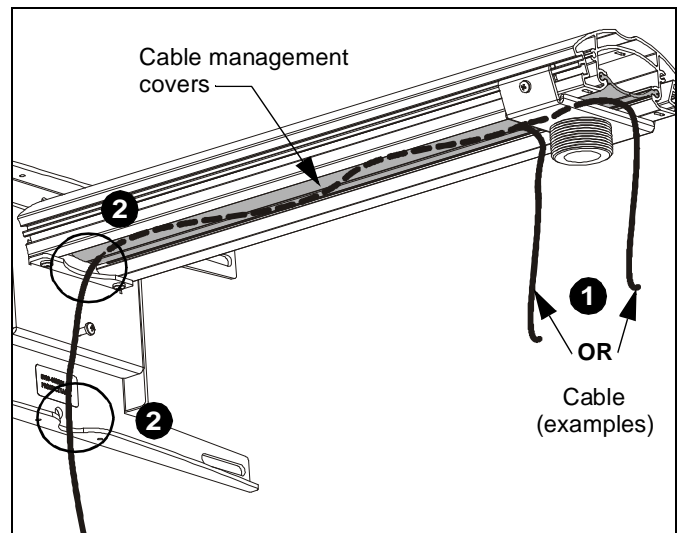

Figure 17
1. Route cables/cords from projector through opening on projector arm and route to wall. (See Figure 17)
2. Guide cables/cords from wall end of projector arm downward through slots in wall plate. (See Figure 17)